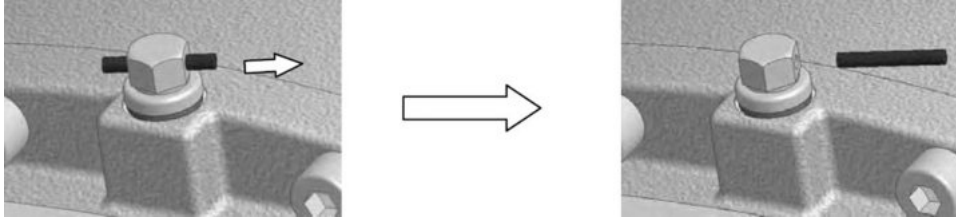

Figure 2, Activation of gear vent plug
1. The oil vent plug is activated on the gear motor (see Figure 2 and optionally section 8.4 Drive Unit instructions).